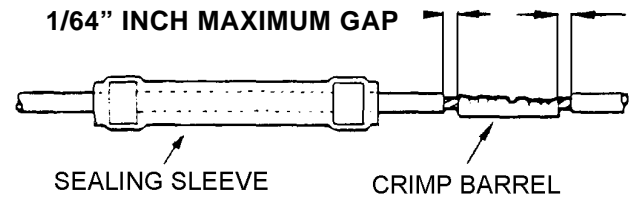

Figure 66. Correctly Installed Crimp Barrel
74. **Crimp Depth (Die Closure).** A positive crimp depth is controlled by an 8 position selector knob located on the tool frame. The operator dials in the desired step for the wire being used and locks the setting with a locking pin (Figure 66).